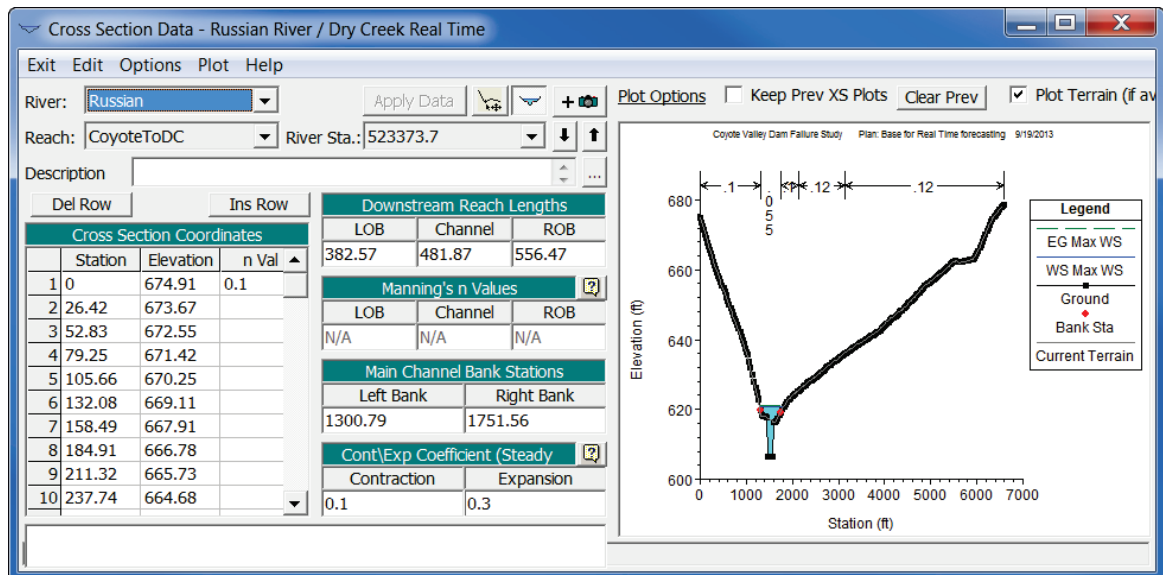

Figure L.19 HEC-RAS – Cross Section Editor
2. The RAS **Cross Section Data Editor** will open (Figure L.19). This editor allows the user to change information about a RAS cross section, add/change Manning's n values, edit cross section coordinates, and edit other information regarding a cross section. For further detail on this editor, reference the HEC-RAS User's Manual.
- From the **Exit** menu, click **Exit Cross Section Editor**, the **Cross Section Data Editor** (Figure L.19) will close.